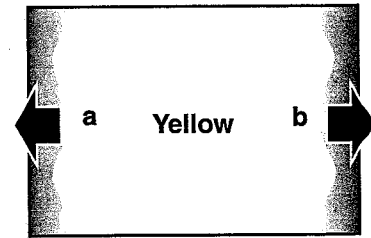

Fig.13-1
- 1) If the un-uniform color appears on the left or right of the screen as shown in **Fig.13-1**, loosen a screw "C" with the hex driver (**Fig.12**) and adjust the slot "A" to make color uniformity in yellow by using a slot screwdriver.